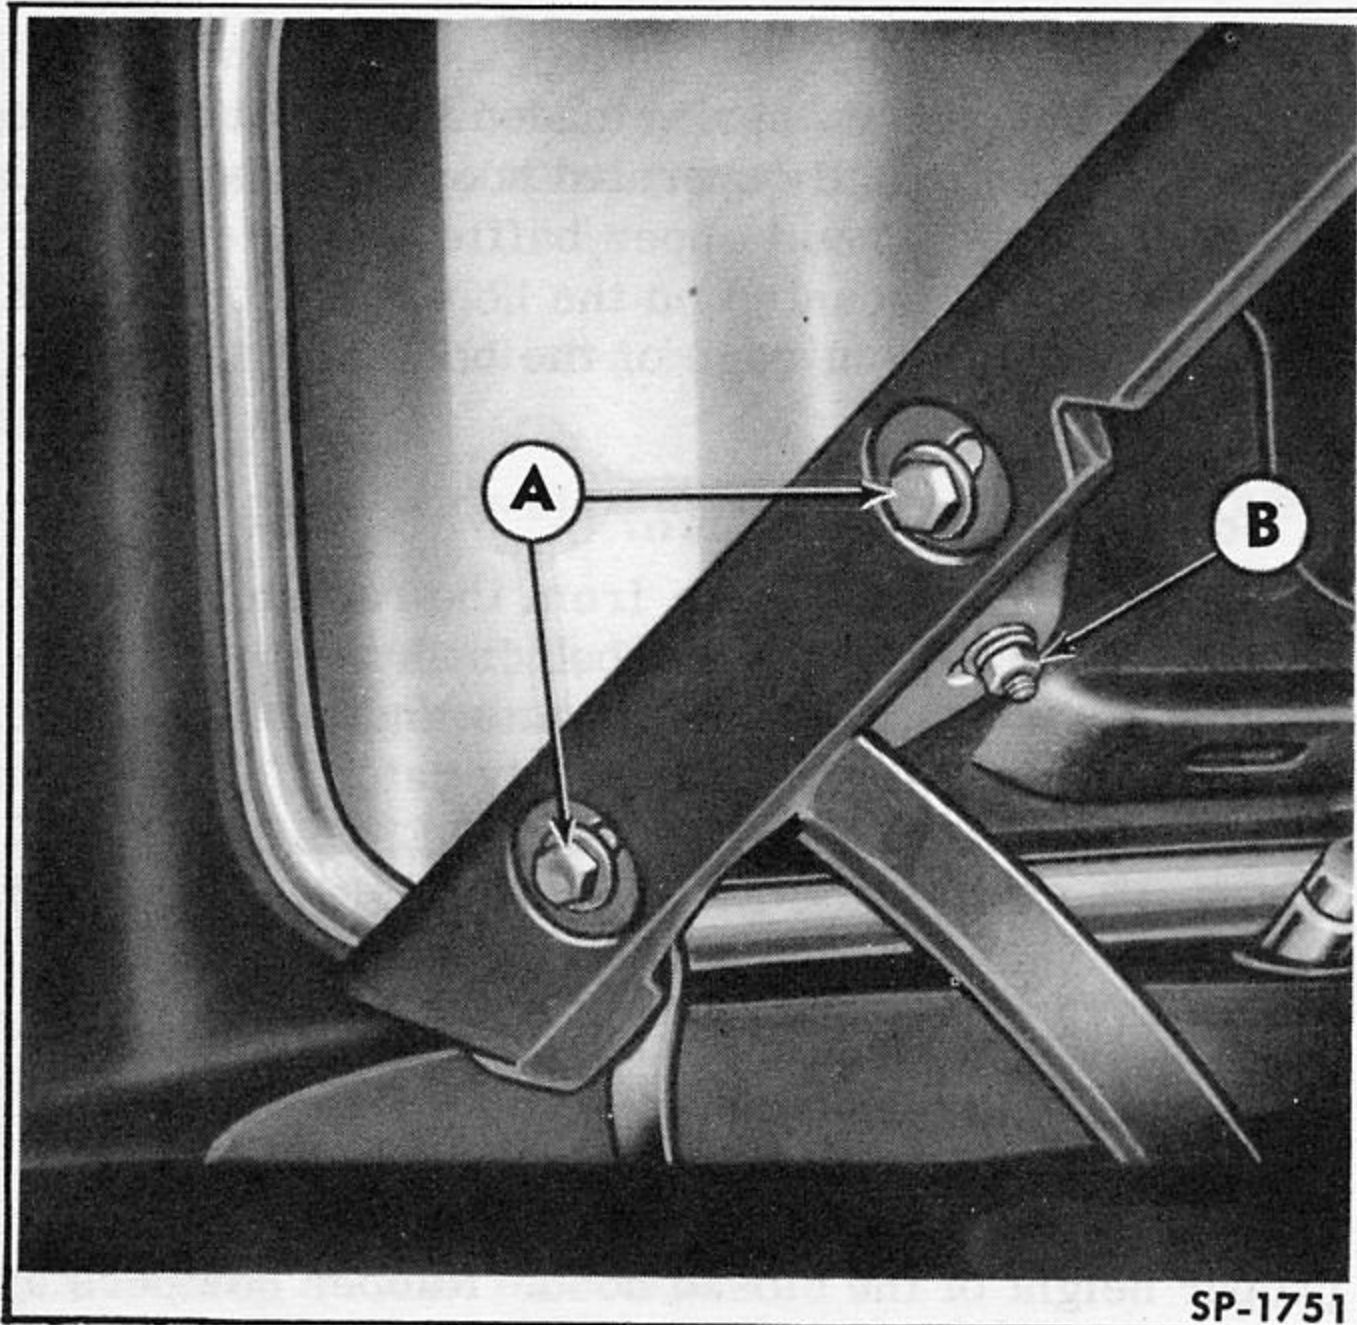

Fig. 251—Hood Hinge Installation
3. With a helper supporting the hood, remove the two attaching bolts A and the nut B shown in Fig. 251 from each side and remove the hood.